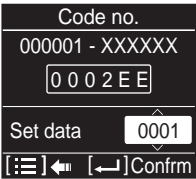

Fig. 4-12-2-9
(6) If the button is pressed under the display Step (3) the following display (Detailed setting-end screen) (Fig. 4-12-2-10) appears.